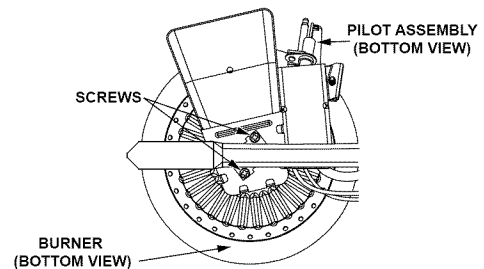

FIGURE 30.
1. Take off the burner by removing the two (2) screws located underneath the burner.
2. Check the burner to see if it is dirty or clogged. The burner may be cleaned with soap and hot water (Figure 30). **IMPORTANT:** DO NOT remove the orifice.
2. Remove the burner to access the pilot/thermopile assembly. Remove and keep the screws securing the burner to the manifold (Figure 30). **IMPORTANT:** DO NOT remove the orifice.
8. Using the pilot screw removed earlier, attach the new pilot/thermopile assembly. Reattach the burner to the manifold using the screws removed earlier. NOTE: Make sure the burner scoop is oriented to the pilot side of the manifold tube (Figure 30).